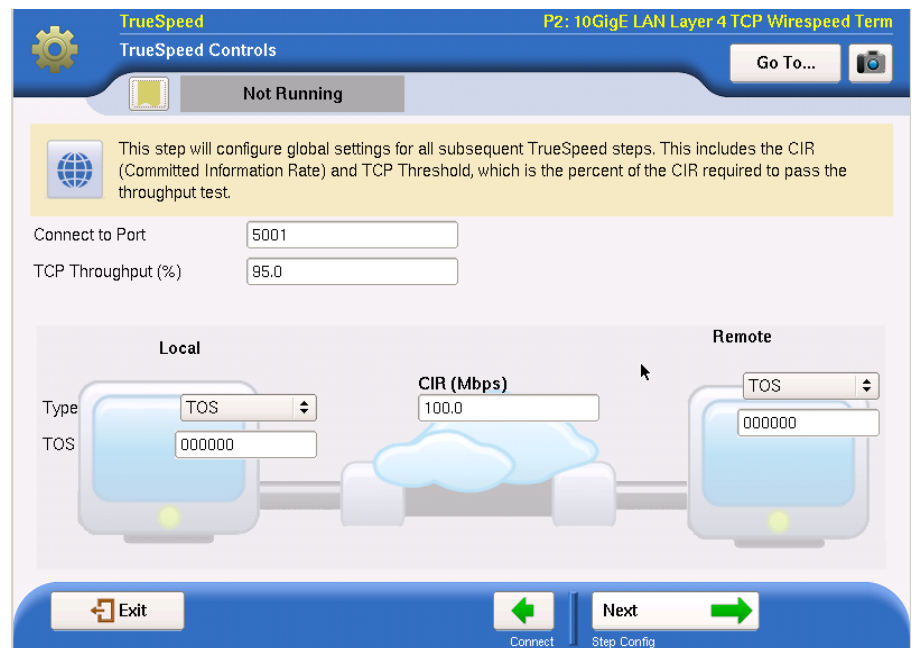

Figure 89 TrueSpeed Troubleshooting Controls Configuration
- 1 The TrueSpeed Controls window will appear (see Figure 89).